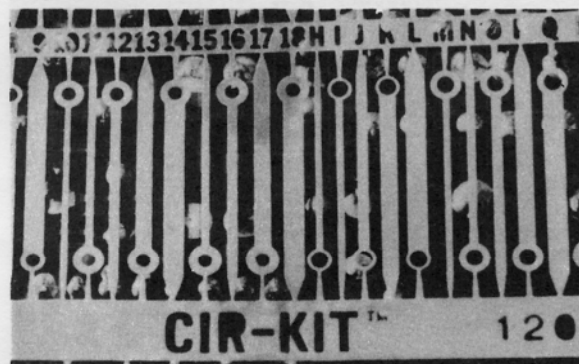

FIGURE 3. MATCHING TRAK-PADS
STEP 1—Overlay the appropriate TRAK-PAD from the "Selector Frame", (see Figure 3) matching the missing or damaged circuit(s) and note the identifying letter on the frame as a reference (see Trak-Pad/Eyelet Data Chart) to determine (a) proper size "Ball Mill" for drilling; (b) correct Funnelet/Eyelet diameter; (c) correct Funnelet/Eyelet length. Refer to Pad Tabulation Chart (in back of manual) for sizes.